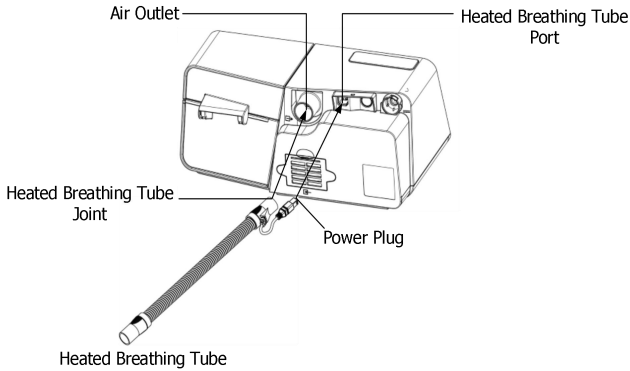

Fig. 12-9
(2) Connect the Heated Breathing Tube joint to the air outlet of the device, and then insert the power plug into the Heated Breathing Tube port on the back of the device, as shown in Fig. 12-9.